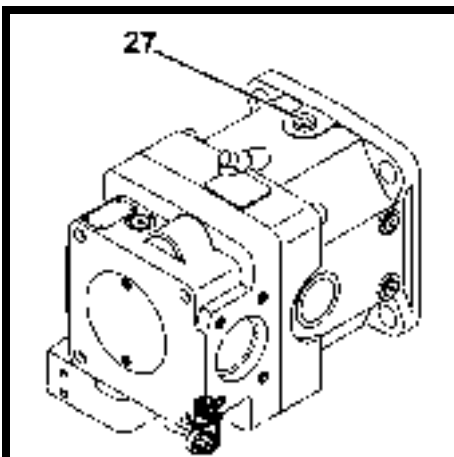

Fig. 36
To bleed the pump for fan drive, loosen the locking plug (Fig. 36, pos. 27), let the air escape and retighten the locking plug as soon as hydraulic oil flows out.